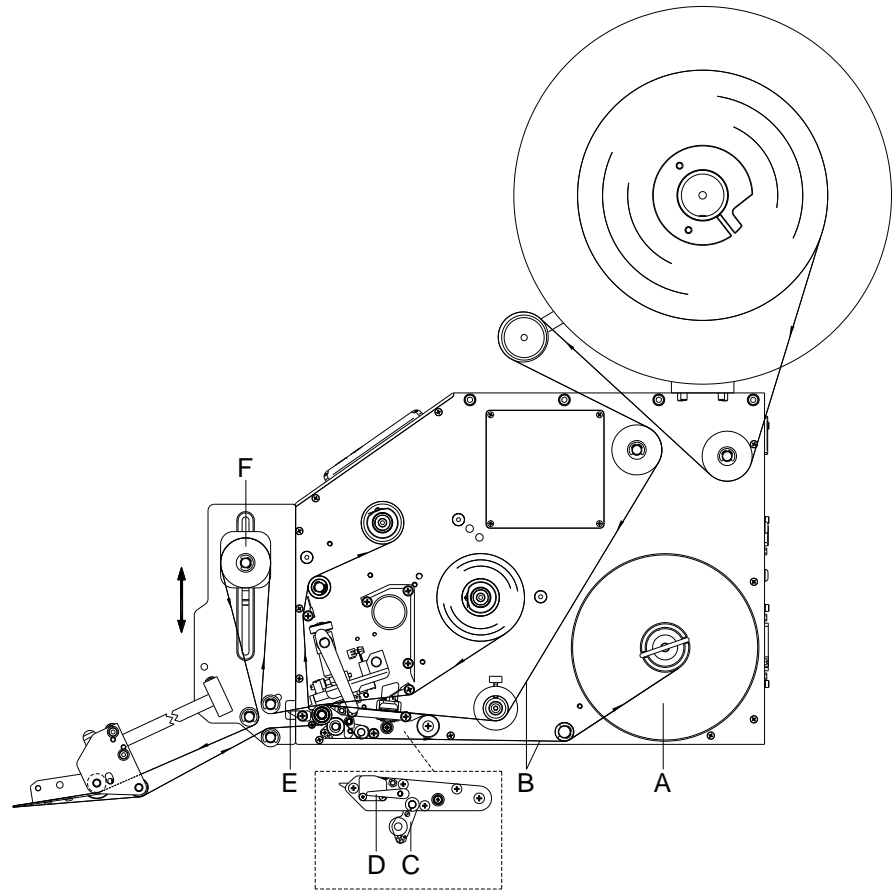

Figure 15
1. Move the dispensing rocker (C, Figure 15, page 28) forwards/downwards by pressing the lever (D, Figure 15, page 28) downwards.
2. Turn the clamping lever (D) against clockwise direction to loosen the mounting plate (A).
3. If required change the angle position of mounting plate (A).
4. Turn the clamping lever (D) in clockwise direction to tighten the position of mounting plate (A).
5. Turn the internal rewriter (A, Figure 15, page 28) of the printing module as long as the backing paper is again tensioned.
6. Press the dispensing rocker (C, Figure 15, page 28) again upwards and engage.